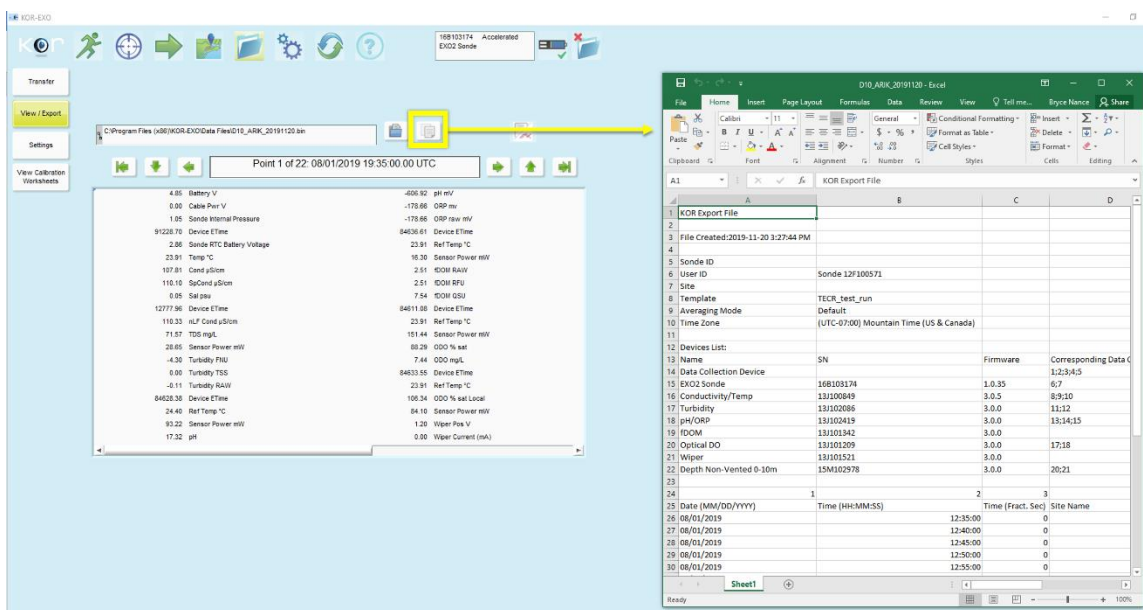

Figure 16. Export Data to MS Excel
5. Click on the paper icon to export the data to CSV (called a **KOR Export File** in Figure 16).